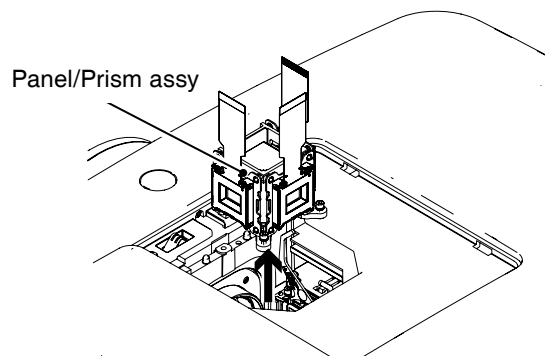

Fig. 4
- 4** Loosen 3 screws-D and take the LCD Panel/Prism ass'y upward off (Fig. 4/ Fig. 6).